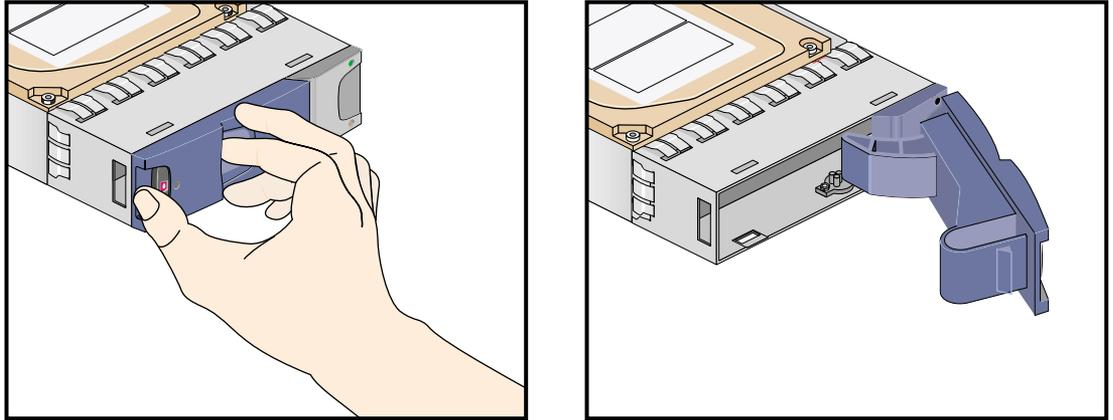

Figure 14-17 Opening Module Handle
4. Open the handle of the replacement carrier by pressing the latch handle towards the right (see Figure 14-17).